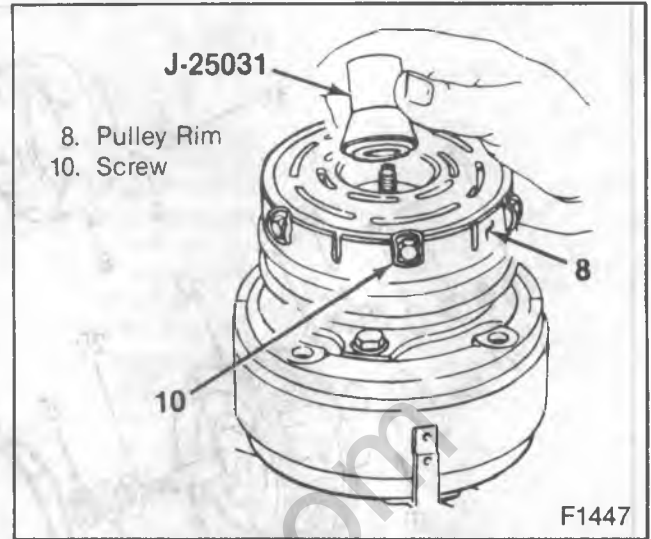

Figure 96—Installing J 25031
- If the clutch rotor and/or rotor bearing are to be replaced, bend the washers (9) away from the pulley rim mounting screws (10) and washers (9).
- Install J 25031 guide over the compressor shaft (22) (figure 96).
3. Rotor (5) and bearing (6) assembly with J 25031 (figure 96).
- Hold the arms of J 25031 guide over the shaft (39) end.
- Engage the arms of J 25031 puller down into the recessed edge of the rotor hub (5).